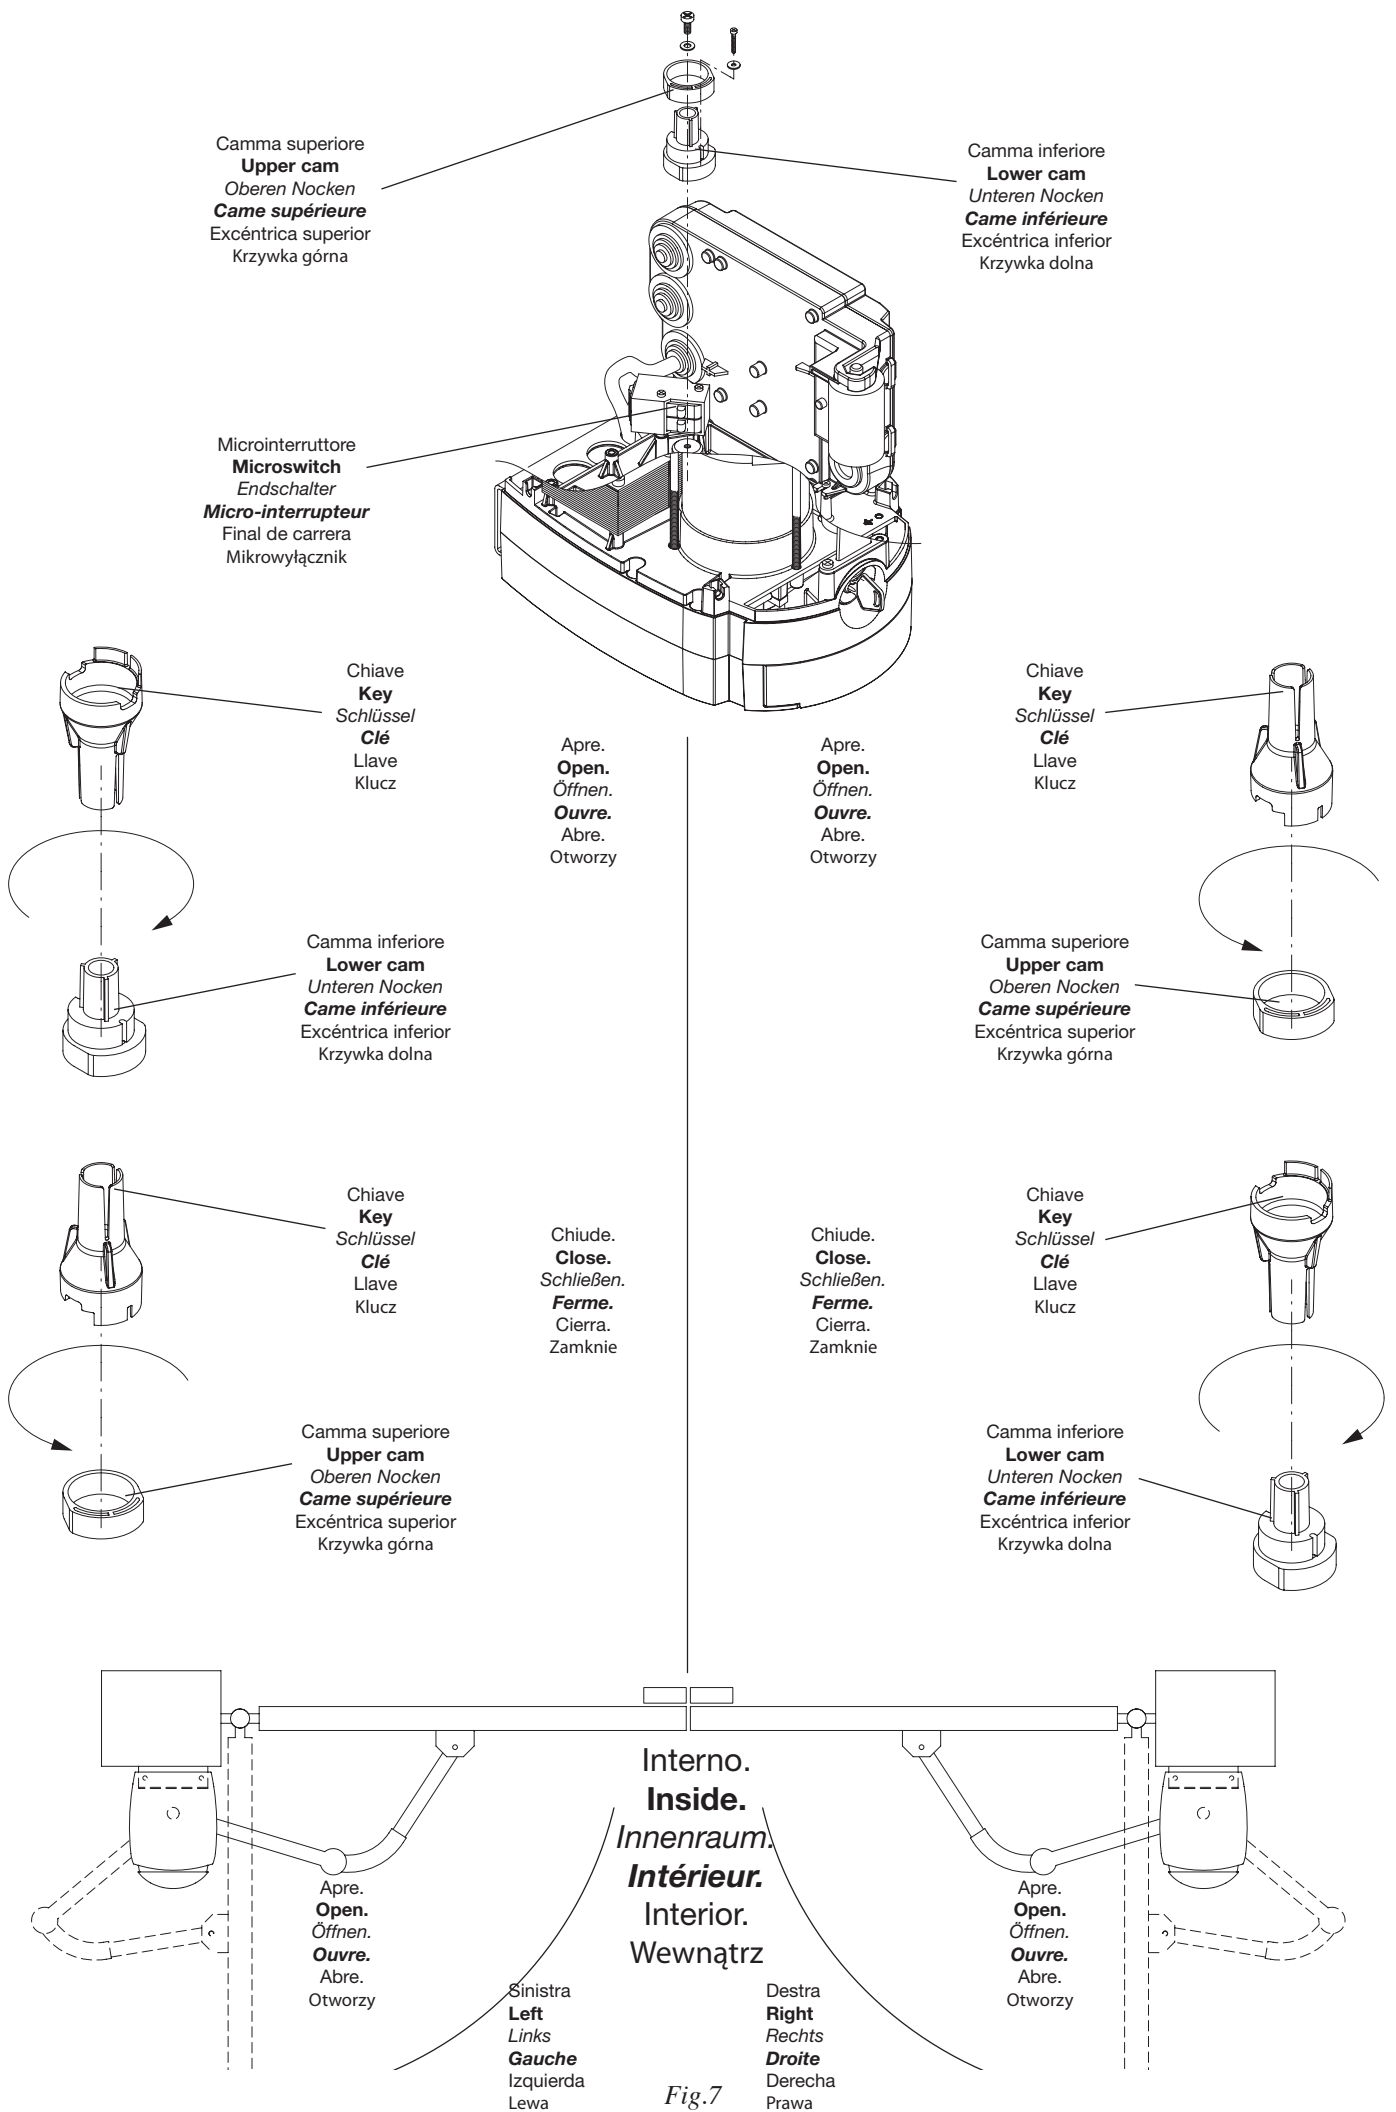

Fig.7
10. Adjusting the limit switches (Fig.7)